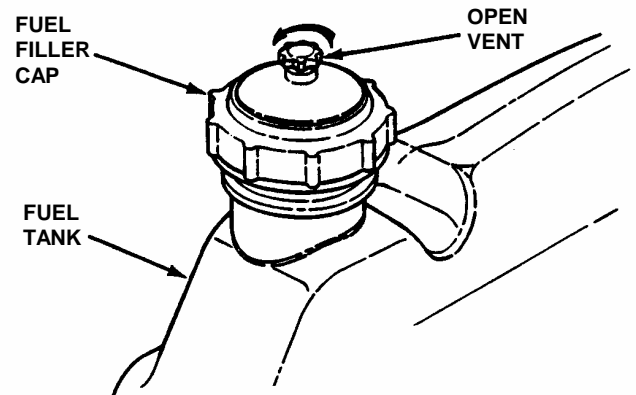

FIGURE 2.2
2.1.8. Add fuel to tank after pushing the Rear Engine Rider outside where fumes can dissipate. Make sure fuel filler cap is tight and vent is open after refueling. Refer to engine owner's manual for fuel specifications. See Figure 2.2.
4. Open vent on fuel filler cap by turning counterclockwise. **IMPORTANT:** Failure to open vent on the fuel filler cap can cause engine to stall. See Figure 2.2.
4. Open vent on fuel filler cap by turning counterclockwise. NOTE: Failure to open vent on the fuel filler cap can cause engine to stall. See Figure 2.2.